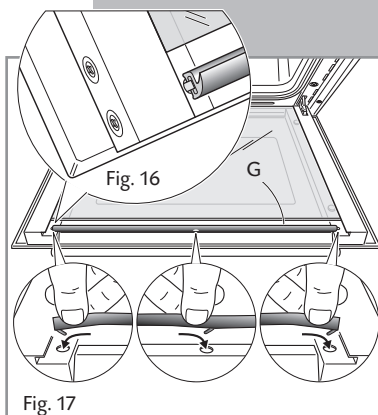

Fig. 17
- Reassemble the seal **G** in the correct way (fig. 16) by hooking the no. 3 fixing hooks in the proper holes (fig. 17).